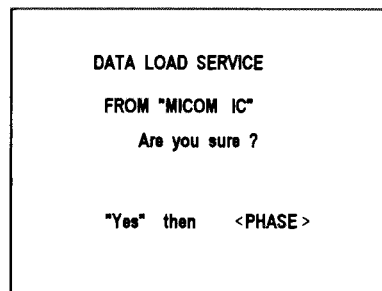

Fig.2
- 3) The screen as shown in Fig.2 will be displayed.